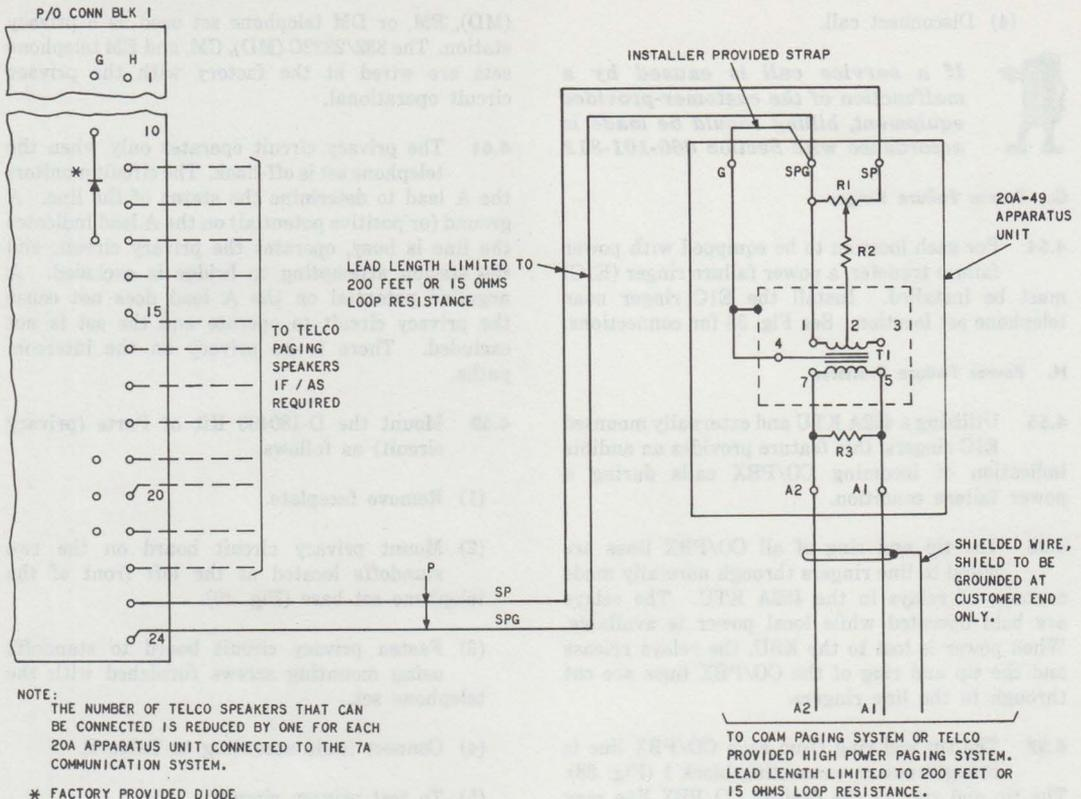

Fig. 37—20A-49 Apparatus Unit, Connections
4.53 A COAM paging system or a separate telephone company-provided paging system is connected to the 7A Communication System through a 20A-49 apparatus unit (see Fig. 37). The 20A-49 apparatus unit is mounted externally to the KSU.
- (1) Remove cover from the 20A-49 apparatus unit.
- (2) Mount the 20A-49 apparatus unit within 200 feet of KSU (wherever customer desires).
- (3) Connect the apparatus unit to the KSU as shown in Fig. 37. Wiring should be run separately and not be a part of the voice cable.
- (4) Have customer connect paging system to apparatus unit, using shielded wire, as shown in Fig. 37.
- (5) Replace cover on apparatus unit.
- (1) Turn potentiometer to full counterclockwise position
- (2) Select an idle intercom path and dial 2 (paging code)
- (3) Using normal voice level, make test announcement while turning potentiometer clockwise until suitable voice level for COAM equipment is reached
**The 20A-49 apparatus unit provides a nominal 300-ohm output to a customer-owned paging system (Fig. 37). It does not provide a means to activate the customer's equipment; therefore, the customer's equipment must be in the ON mode at all times.**
- (4) Disconnect call.